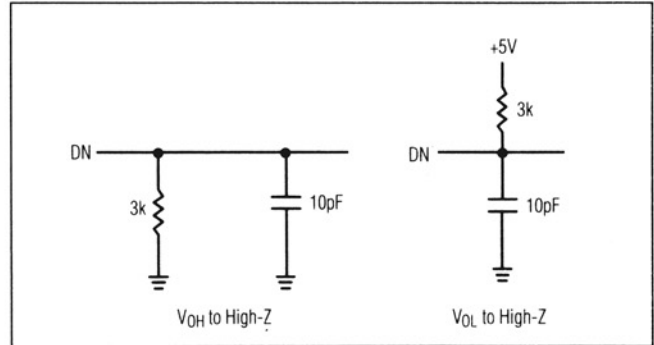

Figure 2. Load Circuits for Three-State Output Timing
- Note 5:** tTR is the time required for the data lines to change 0.5V, measured with load circuits of Figure 2.